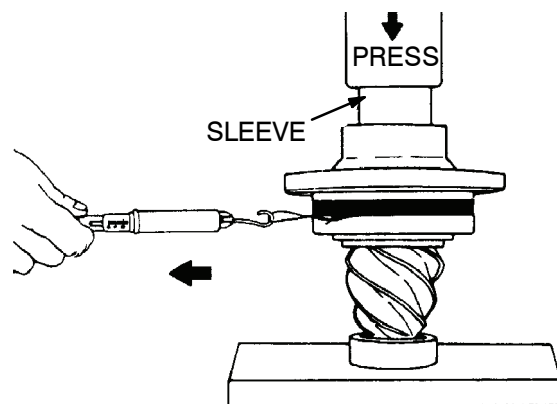

Figure 117.
(1) Press Method:
- (b) Install a sleeve of the correct size against the inner race of the outer bearing. Figure 117.
- (f) Pull the cord with scale on a horizontal line. As the bearing cage rotates, read the value indicated on scale. Make a note of reading. Figure 117.